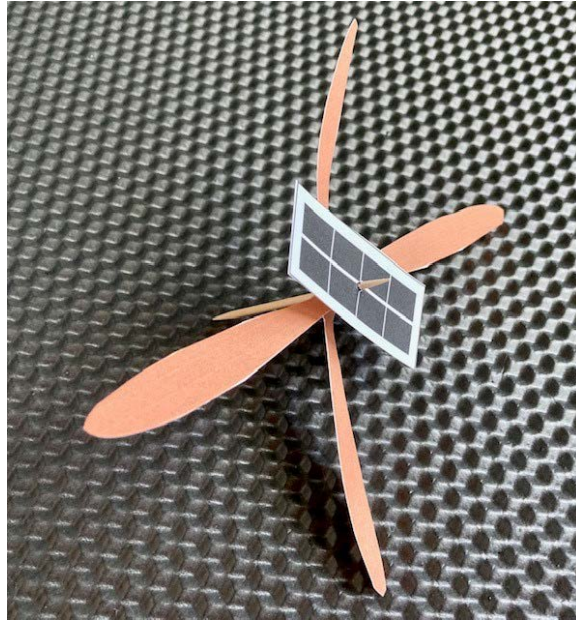

Figure 7. The toothpick is pushed through both rotor blades and the solar panel.
8. Push the end of the toothpick with the rotor blades on it through the hole in the center of the solar panel as shown in *Figure 7*. There should be about $\frac{1}{4}$ inch of the toothpick sticking out from the top of the solar panel. This piece of the toothpick represents the antenna located atop Ingenuity.